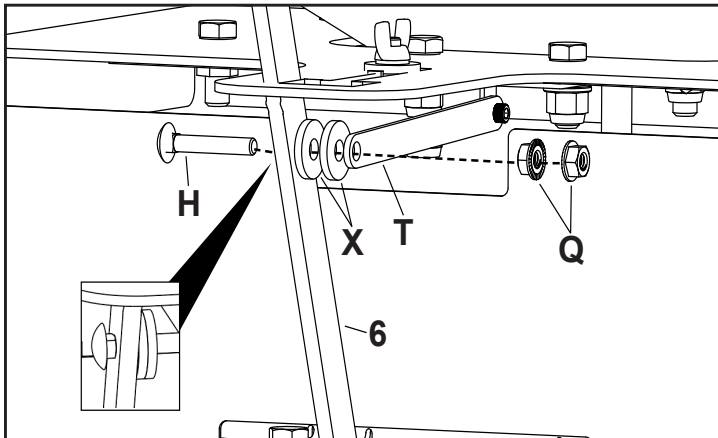

FIGURE 5
## STEP 5: (SEE FIGURE 5)
- Install a 1/4" x 1-1/2" carriage bolt (H) through the right side of the lower handle (6). The carriage bolt head will stick out as shown in Figure 5)
- Install two 3/4" nylon washers (X) onto the bolt and then install the connector bracket (T) onto the bolt.
- Install a 1/4" flange nut (Q) head first onto the bolt and then install another 1/4" flange nut (Q) flange first.
- Tighten the the two 1/4" flange nuts (Q) together.